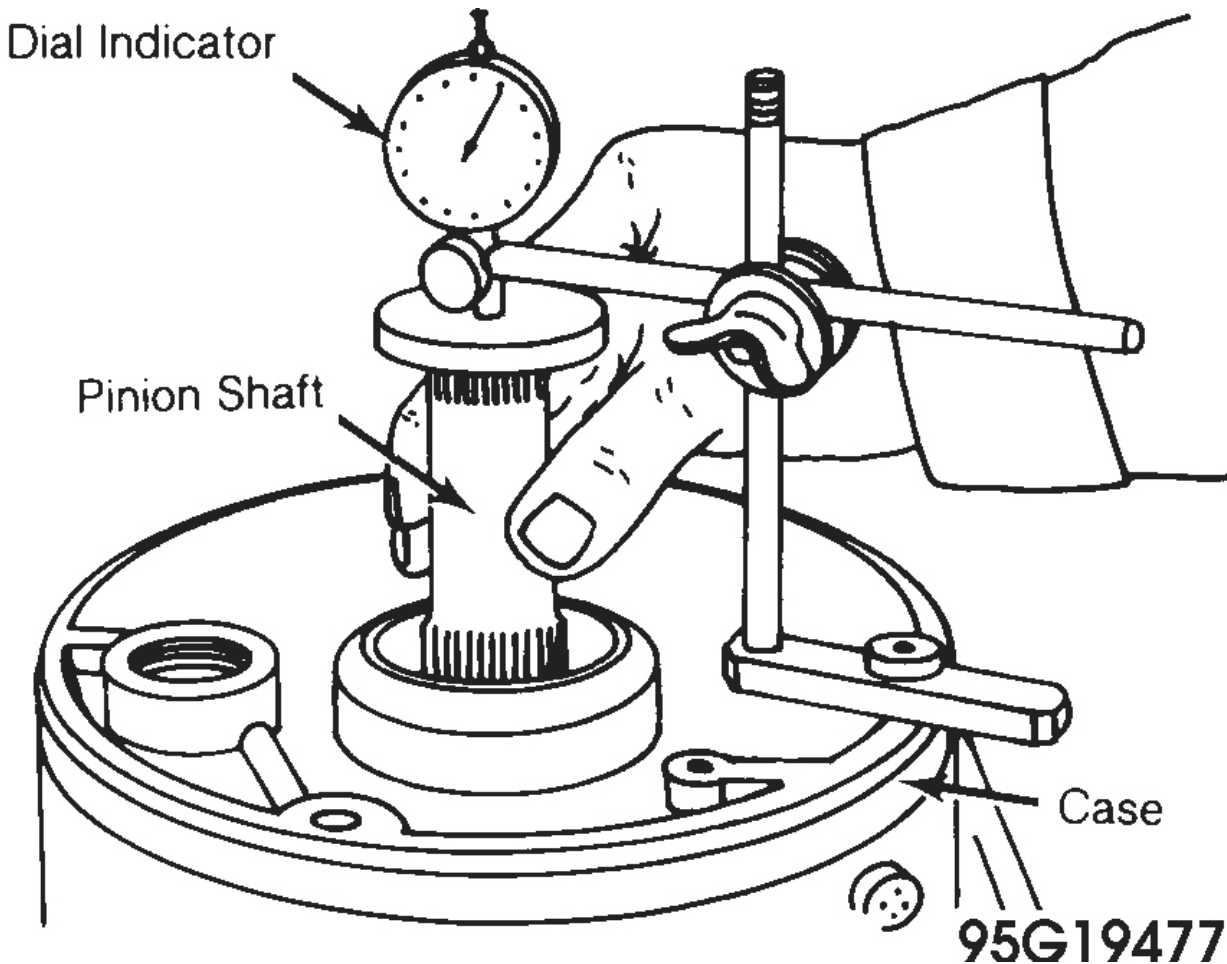

Fig. 32: Using Dial Indicator To Determine Pinion Preload Shim Thickness
4. Zero indicator. Move pinion shaft up and down (without turning) noting maximum end play reading on dial indicator. See **Fig. 32**. To determine proper pinion preload shim usage (to be installed under bearing race in stator support), add .008" (.20 mm) to end play reading.